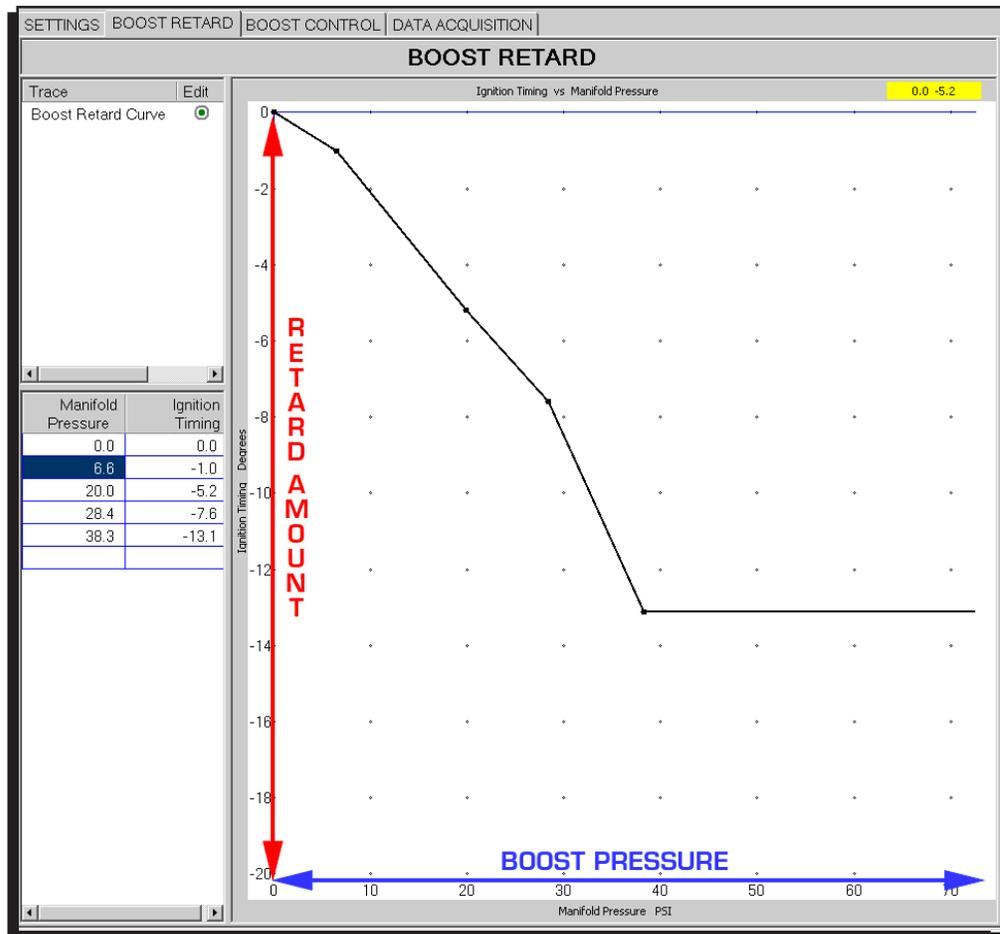

Figure 6 Boost Retard
**BOOST RETARD (FIGURE 6)**
This window allows for programming a Boost Retard Curve. This curve retards timing as a function of Boost Pressure. The vertical line indicates amount of retard from 0° (top) -20° (bottom). The Horizontal line indicates boost pressure from 0psi (left) to 75psi (right). Plotting a curve is possible through two different methods. Plot points can be entered numerically in the MAP PRESSURE / IGNITION TIMING columns to the left of the Boost Retard Curve. The MSD View software will automatically add the dots to the curve with this method. Another method would be moving the mouse pointer over the desired plot point, right click => left click "Add Dot." The MSD View software will automatically populate the MAP PRESSURE / IGNITION TIMING columns with this method. Making changes to existing dots or plot points in the columns is possible by clicking on the dot and dragging it to the desired position, or by simply editing the plot points in the columns. The yellow square in the right hand corner of the Boost Retard Curve displays the pressure and retard timing as it follows the mouse pointer (Figure 6).